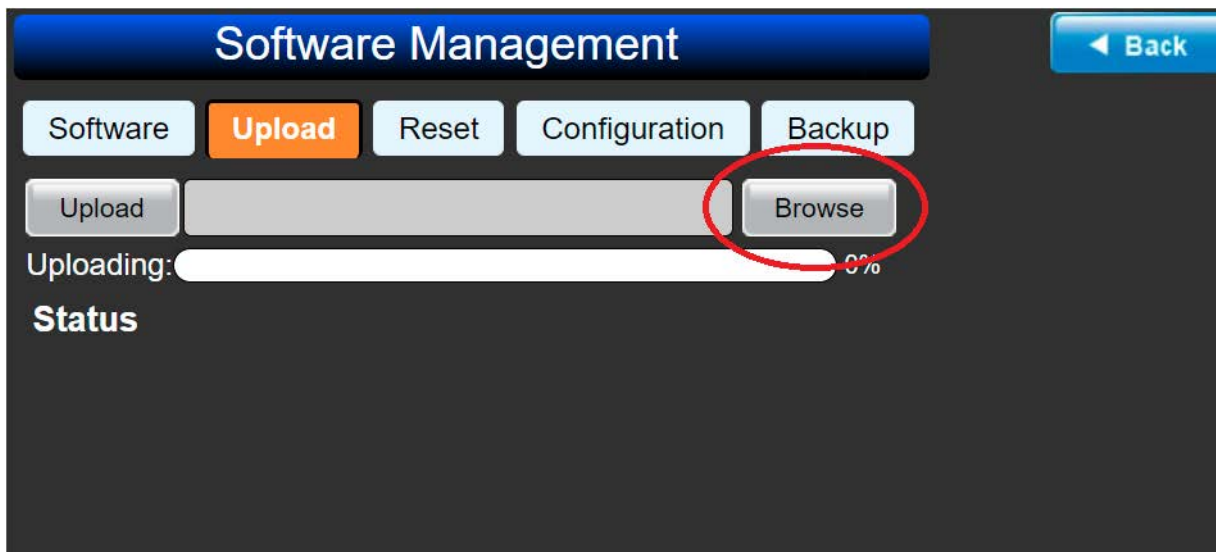

Figure 6-3 Software Update
- STEP 2** Open a web browser and establish a connection, once there is a connection from the HOME page navigate to the Setup>> Update main screen menu and click on the Upload tab. See the figure 6-3 below.